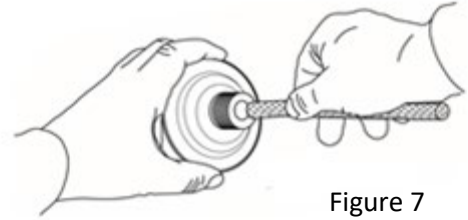

Figure 7
2. Insert the new torch wick (Figure 7) and position the wick with 3/4 inch of the wick exposed.